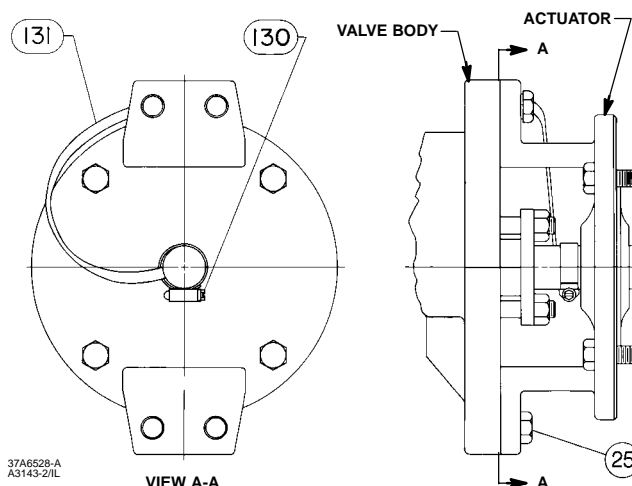

Figure 3. Optional Shaft-to-Body Bonding Strap Assembly
For hazardous applications, attach the optional bonding strap assembly (key 131, figure 3) to the valve drive shaft (key 6) with the clamp (key 130, figure 3) and connect the other end of the bonding strap assembly to the body with the cap screw (key 23).